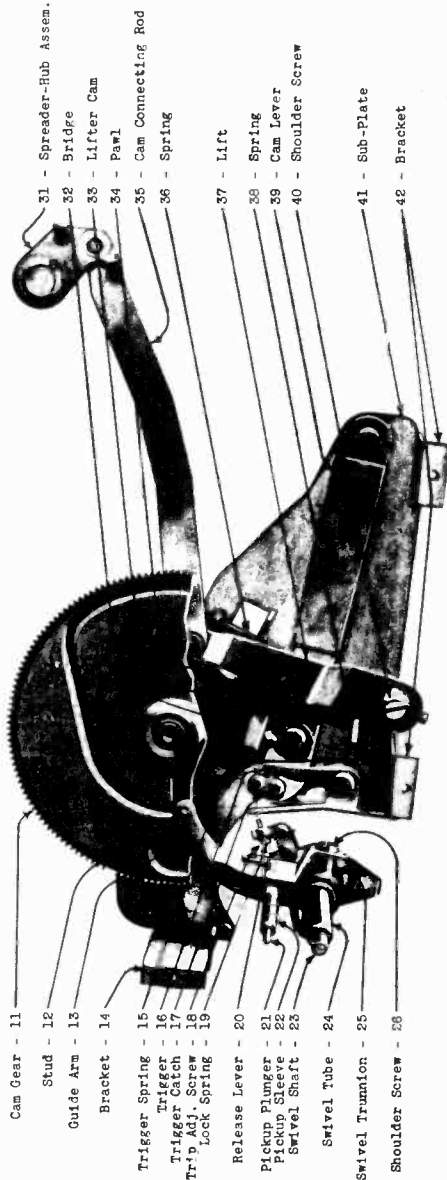

Fig. 10. Sub-Plate Assembly
C. ADJUSTING HEIGHT TO WHICH TONE ARM RISES. The arm should rise, during the change-cycle, high enough so that it clears by only 1/8 in. the record above it, next to be played. (Be careful, before deciding that adjustment is necessary, to see that the record at bottom of stack is not a warped one.) To make this adjustment, loosen the lock nut on Pickup Sleeve 22 (see Fig. 10) and turn the sleeve to lengthen or shorten Pickup Plunger 21. When correct adjustment is found, tighten lock nut again.